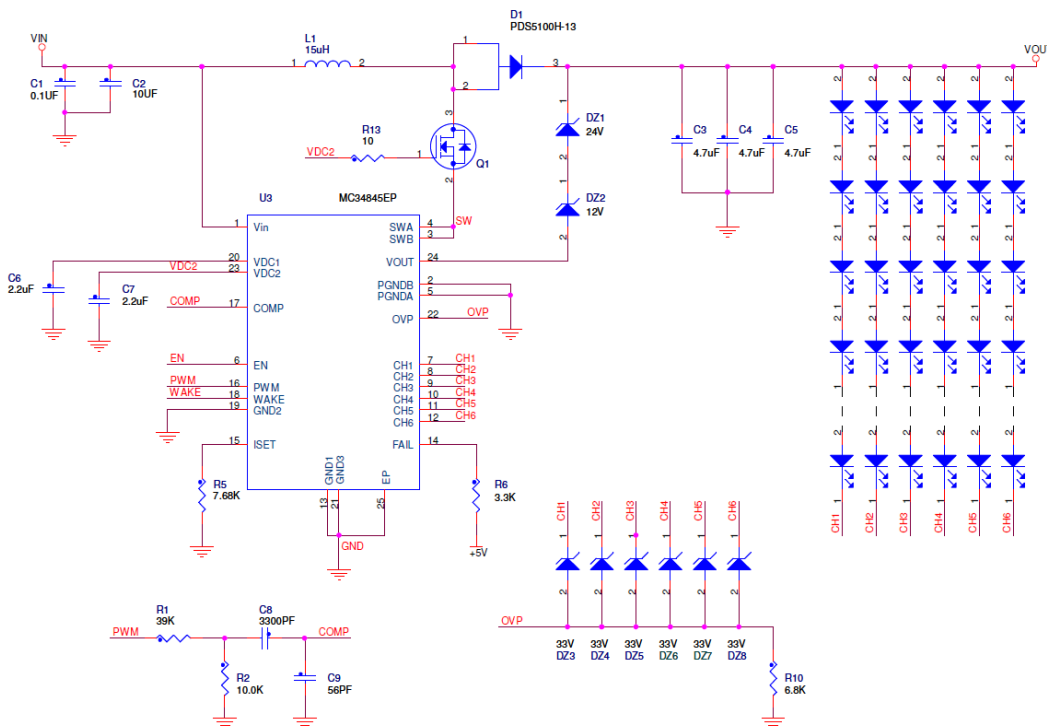

Figure 3. I Application Circuit
Similarly, the boost output voltage feedback pin, **VOUT**, is limited to a maximum voltage of 65 V. A higher voltage at this pin will cause the boost converter section to be off at all times. In order to get more than 60 V and fake a normal performance in the feedback pin, it is necessary to add zener diodes between the output voltage of the boost converter and the **VOUT** pin, so that the device “believes” is working well below the maximum rating. The clamping voltage rate of the zeners will depend on the maximum over-voltage protection level expected, so that  $V_{OUT\_MAX} + 5.0\text{ V} - V_{ZENER(S)}$  is lower than the maximum voltage at the **VOUT** pin. Besides, this modification to the application circuit also enables the use of the internal OVP feature as the **VOUT** pin internally works as the triggering variable for the 60V protection. As a result, the resistor divider previously used at the OVP pin will be no longer necessary as shown in Figure 3.
- b) Maximum off state voltage, VMAX .- During the off times of the PWM dimming, if the voltage drop across the LED driver channel is higher than 45V, the device will probably get damaged. A wise approach to get full protection to each of the LED drivers as well as the DC/DC converter could be use the external OVP feature to shutdown the part if any string during the off time goes above 40V. Consider placing a 33V or so Zener from the bottom of each string to a common resistor pull-down. The junction is tied to the OVP pin. Then if the off time voltage goes  $33V + 6.9V \approx 40V$ , the external OVP feature will force the DC/DC converter to stop boosting. As a result, it is possible to get full protection this way: external OVP for LED off time voltage at the LED drivers and internal OVP for output voltage of the DC/DC converter. This implementation is shown in Figure 3.
7. The off state leakage current per channel is 1.0  $\mu$ A. In order to keep the voltage across each of the LED driver channels well below  $V_{MAX}$  during the off times of the PWM dimming, it is recommended to check the minimum voltage drop of the LEDs used, when the forward current is approximately 1.0  $\mu$ A. For this reason, the external OVP protection configuration in Figure 3 for each of the LED driver channels is proposed.